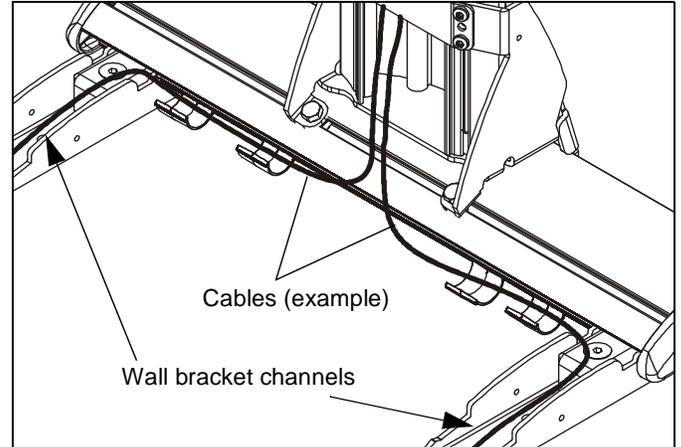

Figure 21
- Thread cable up wall bracket channel and into opened cable clips. (See Figure 21) **Proceed to Step 7.**